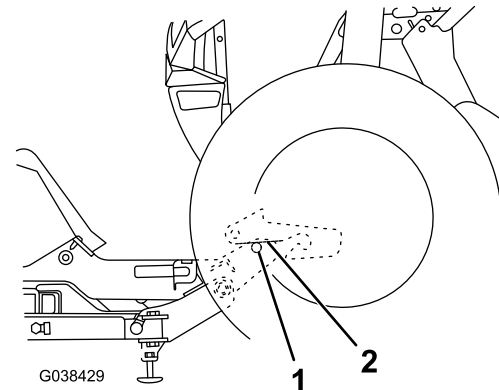

Figure 14
4. Rotate the kickstand leg until the coupler rear pin contacts the pin receiver as shown in Figure 14.